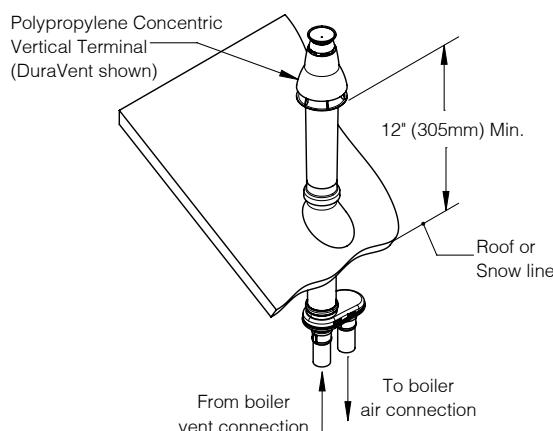

Figure 9-10: Polypropylene Concentric Terminal
1. Concentric terminals listed in Table 9-9 may be used to terminate air and vent outside building per Figure 9-10. Both air and vent pipes must attach to terminal kit.